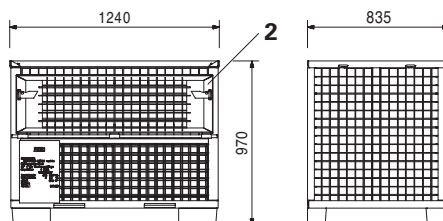

Fig. 2
For better loading and unloading, the flap (2) can be pivoted downwards. (Fig. 2)